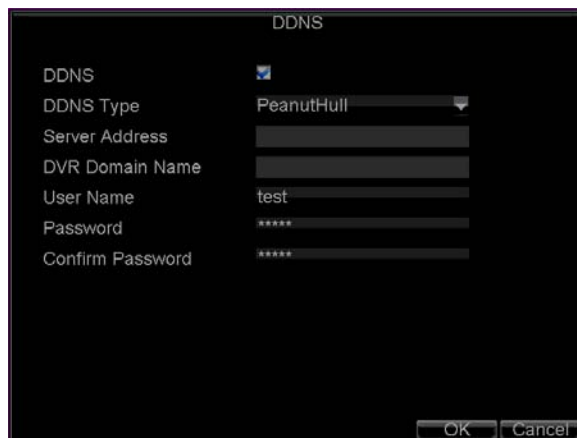

Figure 7. DynDNS Settings
- **PeanutHull**: Enter **User Name** and **Password** obtained from the PeanutHull website (Figure 7).